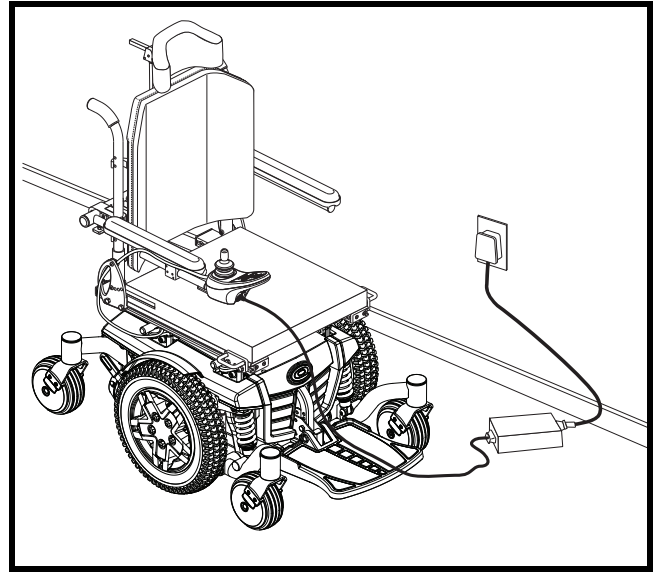

Figure 23. Battery Charging
3. Plug the off-board charger into the off-board charger/programming socket on the controller. **See figure 23.**